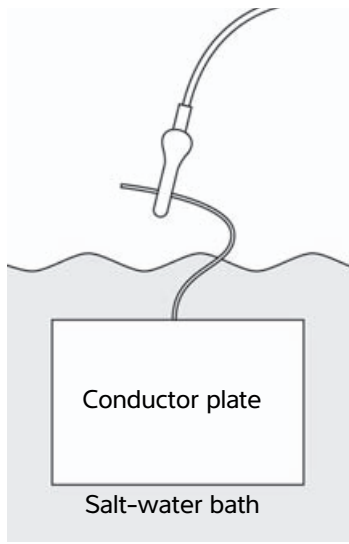

Figure 5-10 Conductor plate attachment
- a Connect the black lead to the copper or aluminum sheet in the salt-water bath as shown in Figure 5-10.